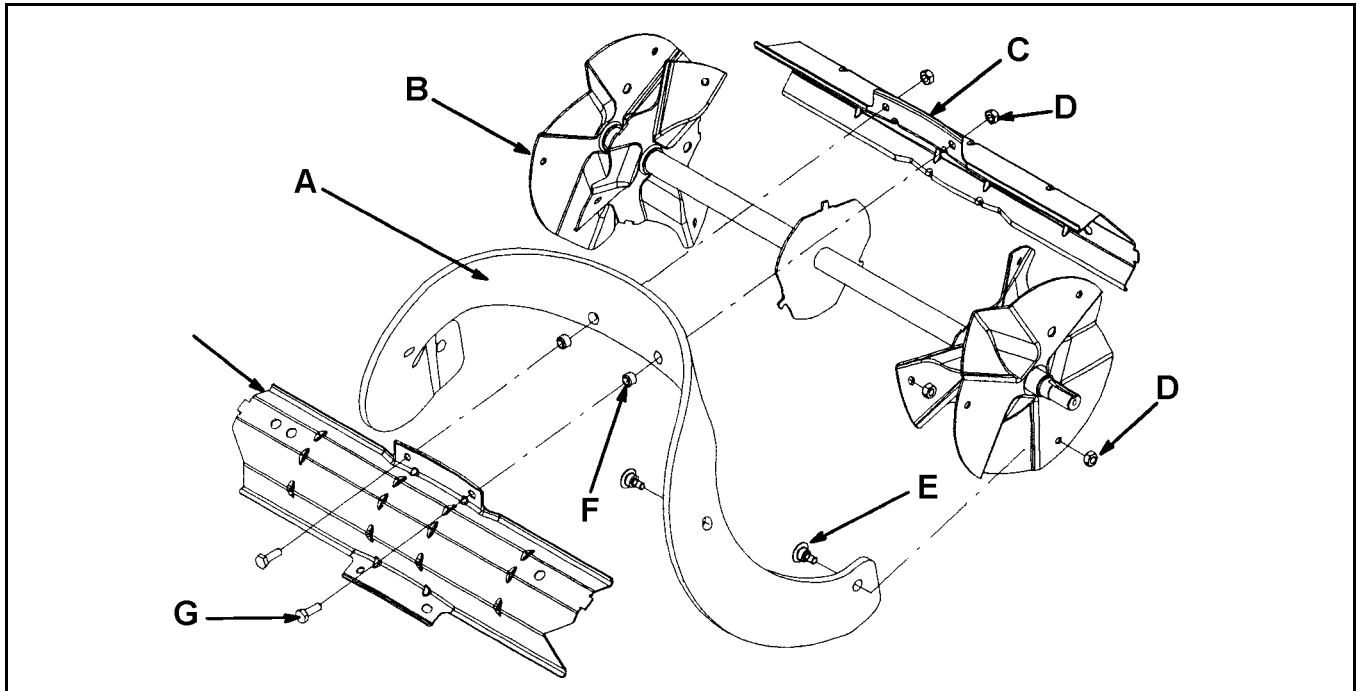

Figure 85
1. Remove the four Torx screws and the four locknuts that secure the outer edges of the rotor blade to the rotor assembly (Figure 85).
2. Remove the two hex-head cap screws and two locknuts that secure the center of the rotor blade to the rotor drum (Figure 85).
3. Slide the rotor blade out from between the rotor drum parts (Figure 85).
3. Secure the rotor blade to the rotor drum parts with the two hex-head cap screws and two locknuts that you previously removed. Position the bolt heads on the thick rubber side of the rotor blade (Figure 85).
4. Curve the rotor blade and secure it with the remaining Torx screws and locknuts, positioning the screw heads on the thick rubber side of the rotor blade (Figure 85).